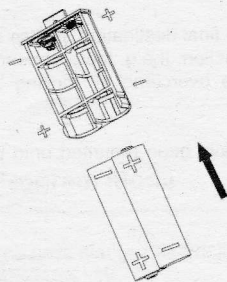
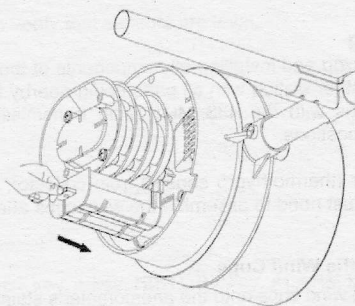

Figure 3
Figure 4
3. Insert 2xAA alkaline batteries in the battery compartment. (figure 3) Push the battery compartment into the rain collector unit. (figure 4)